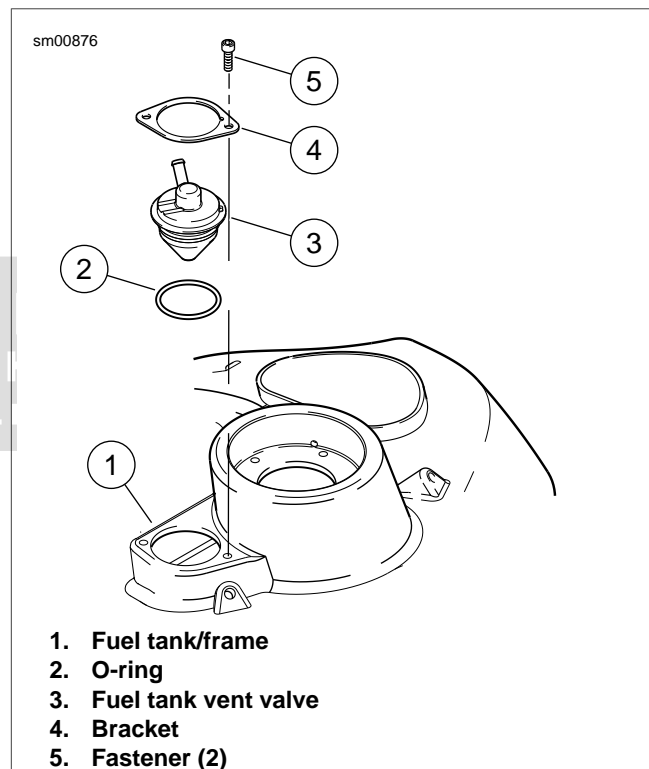

Figure 4-28. Fuel Tank Vent Valve
7. See Figure 4-28. Remove fasteners (5).
8. Remove bracket (4), fuel tank vent valve (3) and o-ring (2) from fuel tank/frame (1).
1. See Figure 4-28. Install **new** o-ring (2).
2. Install fuel tank vent valve (3) into fuel tank/frame. Vent valve nozzle should be at approximately the 7 o'clock position.
4. Loosely install fasteners (5).